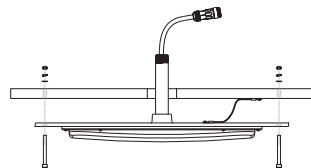

Figure 4
4. Lock the safety rope to the ceiling, then install led fixture. (Figure 4)